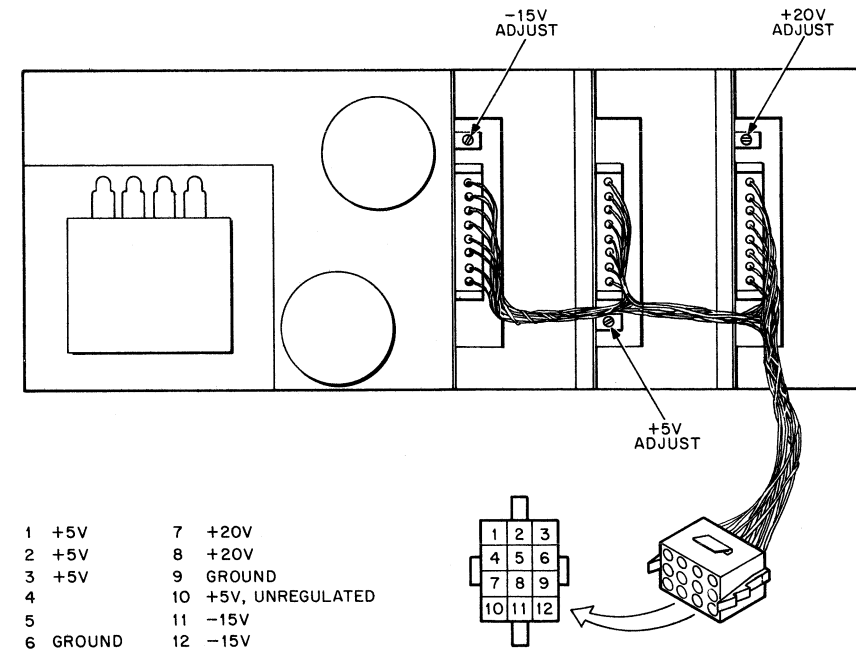

Figure 5-3 Power Supply Adjustments and Connector Pin Assignments
2	Open rear door of cabinet to gain access to power supply. Extend the disk chassis as necessary to expose power supply adjustments (Figure 5-3).
- 3 Remove power supply loads by disconnecting output connector, Figure 5-3, on top of supply.
- 5 With no loads, adjust power supply outputs to values shown below. (Refer to Figure 5-3 for the location of adjustments and access points.)